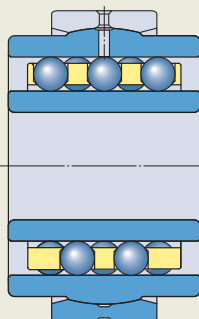

Fig.13
- tailor-made bearings and units (fig.12 and fig.13)
Rotating discs (fig. 12) are often fitted to the shaft to act as a shield. Flingers, grooves or discs are also used with oil lubrication. The oil from the flinger is collected in a channel in the housing and returned to the housing sump through suitable ducts (fig. 13).